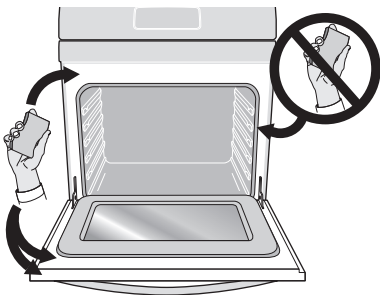

Figure 21: Clean around the oven door gasket
- Do not clean the oven door gasket (Figure 21). The woven material of the oven door gasket is essential for a good seal. Care should be taken not to rub, damage, or remove the gasket.
- Clean any soil from the oven frame, the door liner outside the oven door gasket, and the small area at the front center of the oven bottom. These areas heat sufficiently to burn soil on. Clean with soap and water. These areas are shown in white (Figure 21).